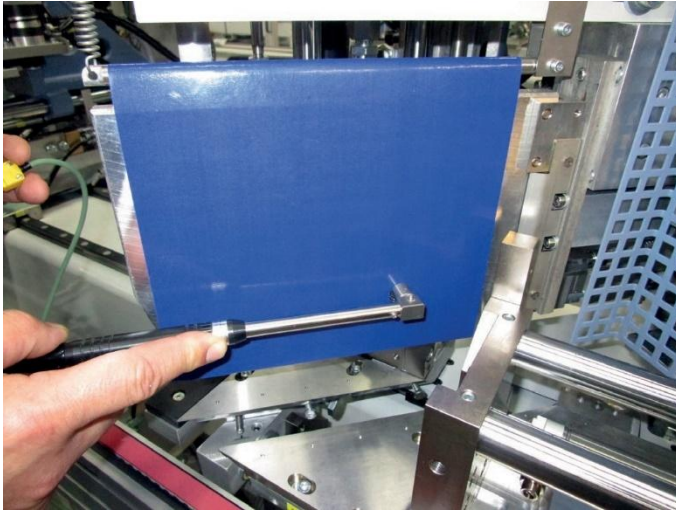

Figure 13: Temperature measurement on the welding mirror using a contact sensor
- Regularly measure the temperature directly on the mirror in the welding area with a contact sensor (see Figure 13). Infrared thermometers are not permitted because an air cushion forms between the PTFE film and the mirror, which distorts the temperature displayed.